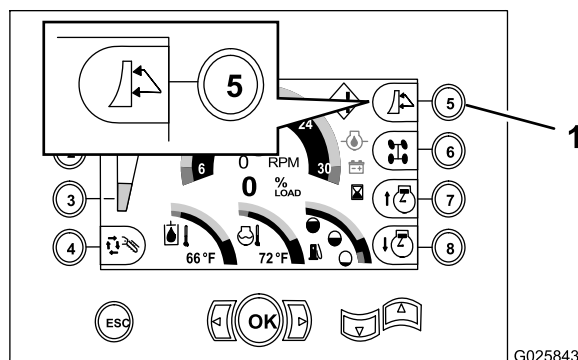

Figure 49
1. Switch the machine to the backfill blade function by pressing button 5 on the command center until the icon for the backfill blade appears (Figure 49).